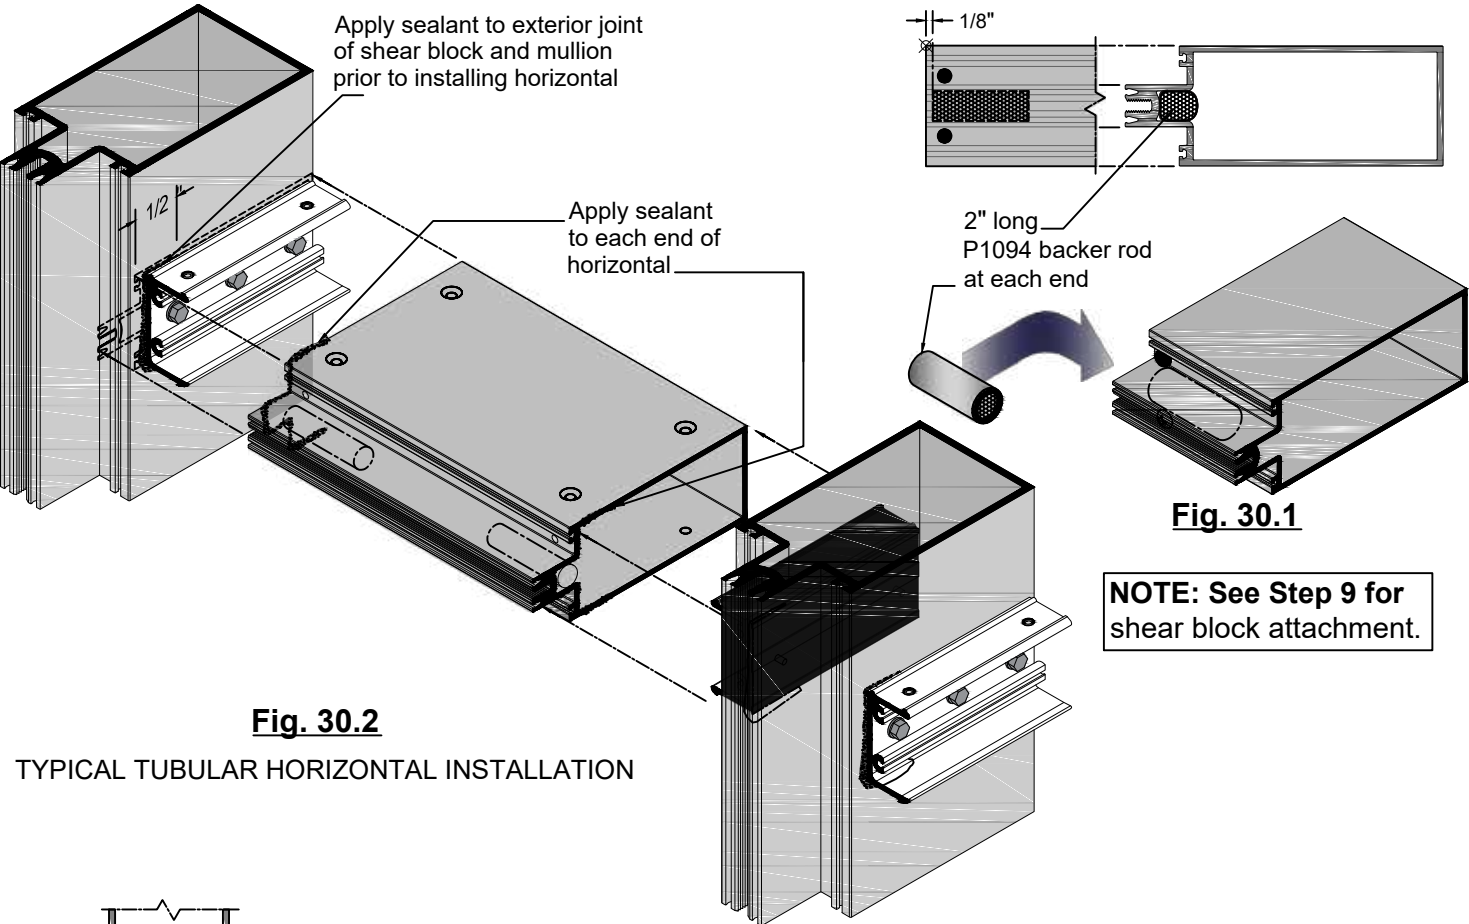

Fig. 30.1
- A. Insert a P1094 ethafoam rod into the void of the tongue of the horizontal members, pushing it about 1/8" past flush to allow room for sealant. See Fig. 30.1.